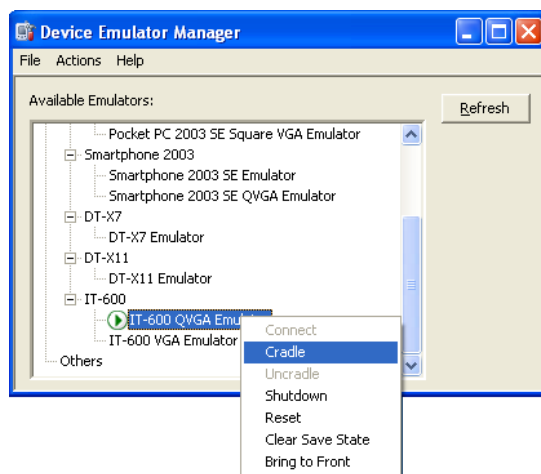

Figure 7.15
4. Right-click **IT-600 Emulator** in **Available Emulators** list and then choose **Cradle** in the popup menu. See Figure 7.15.